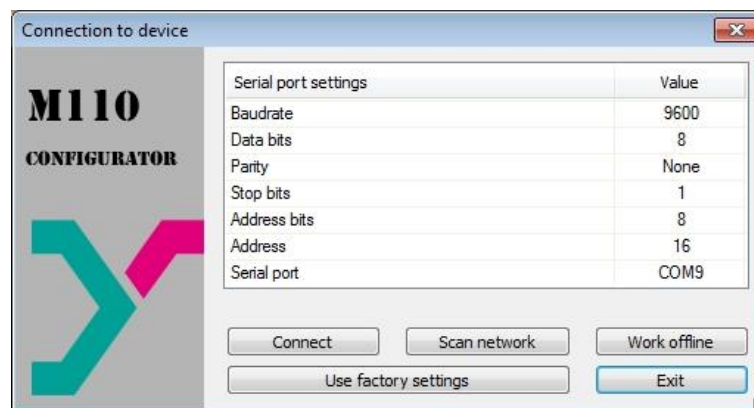

Fig. 7.1 “Connection to device” dialog window
- click the “Use factory settings” key in the “Connection to device” dialog window or enter the values from the Table 7.1 (see Fig.7.1)